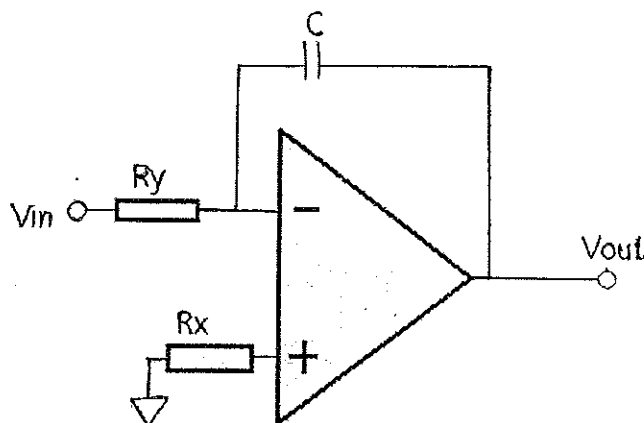

Figure 3
- b) Consider the ideal integrator circuit shown in Figure 3.
- If  $v_{in} = 0.8 \sin(100t)$  V, calculate the peak output voltage value when  $R_x = R_y = 100\text{k}\Omega$  and  $C = 1\mu\text{F}$  (Figure 3). (04 marks)